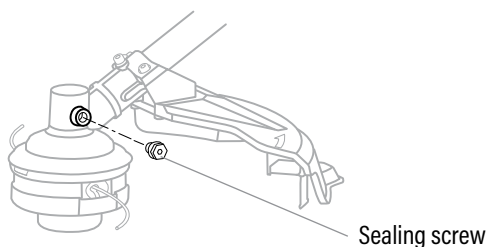

Fig. 10
1. Hold the string trimmer on its side so that the sealing screw is facing upwards. (Fig. 10)